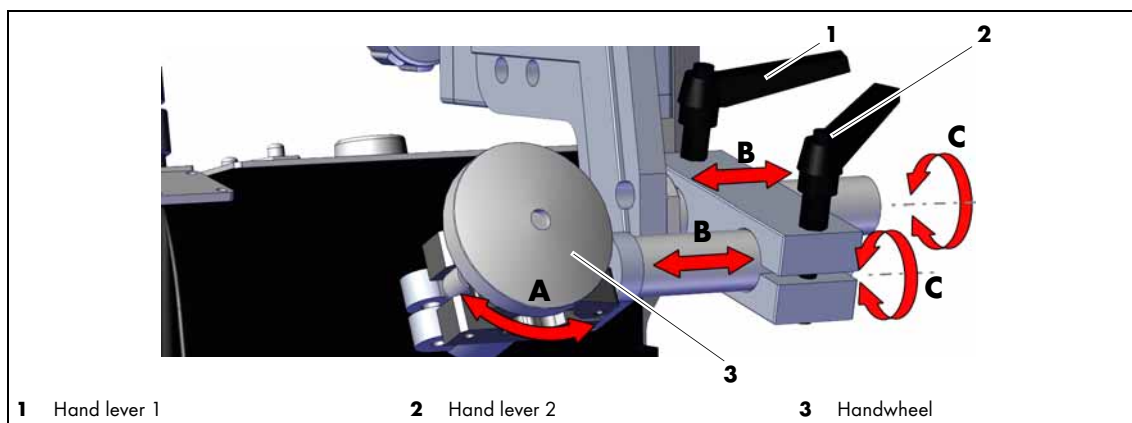

Fig. 12 Possible adjustments to set the position and angle of the welding torch
- 2 Set the desired angle (Fig. 12, pos. C) and right-left position (Fig. 12, pos. B) of the welding torch by loosening the hand lever (1), (2) and manually angling the welding torch. Then tighten the hand lever (1), (2) again.
- 3 Set the desired angle (Fig. 12, pos. A) of the welding torch to the part to be welded by loosening the hexagon socket screw (5) and manually turning the welding torch. Then tighten the cylinder head screw (5) again.